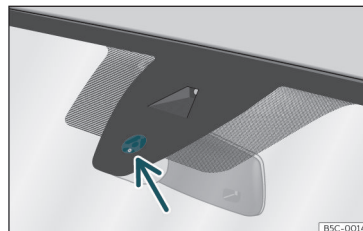

Fig. 96 Rain sensor sensitive surface
Possible causes of faults and mistaken readings on the sensitive surface»» Fig. 96 of the rain sensor include:
- Regularly clean the sensitive surface of the rain sensor»» Fig. 96 (arrow) and check for possible damage to the wiper blades.